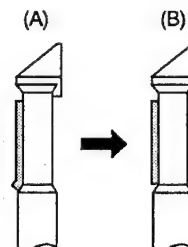

Fig. 2-1-80 No. 8 guide rough adjustment
2. Turn the ACE tilt adjusting screw until tape wrinkle is caused at the lower flange of No. 8 guide as shown in Fig. 2-1-80 (A).
3. Turn the ACE tilt adjusting screw counterclockwise until the tape travels along the lower flange as shown in Fig. 2-1-80 (B).